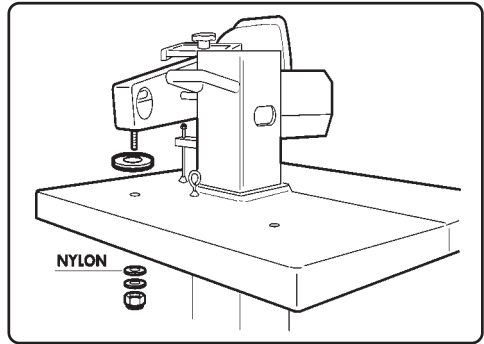

Fig. 11
- Fix one of the two control levers onto the frame with a self-locking nut (Fig.11).